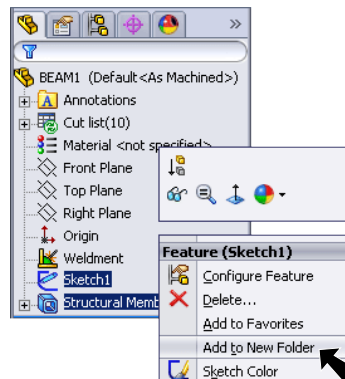

Fig. 29
Step 1. **Ctrl** click **Sketch1** and **Structural Member1** feature in the Feature Manager to select both. Release **Ctrl** key and **right click** and select **Add to New Folder** on the Content menu, **Fig. 29**.